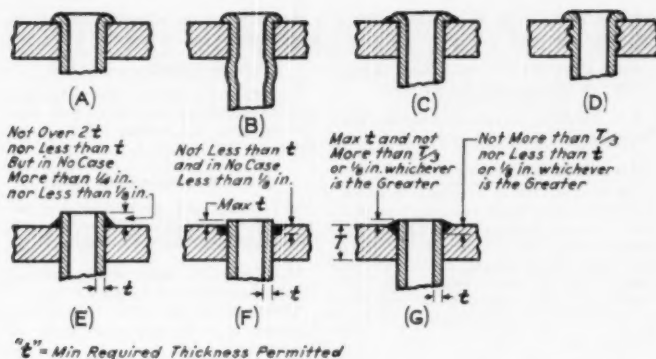

FIG. P-31 ACCEPTABLE FORMS OF TUBE ATTACHMENT ON FIRE-TUBE BOILERS
(1) The tube [ends extend not less than $\frac{1}{8}$ in., nor more than $\frac{3}{16}$ in., through the tube sheet:] SHEET HOLE MAY BE REVELLED OR RECESSED TO A DEPTH AT LEAST EQUAL TO THE THICKNESS OF THE TUBE. WHERE THE HOLE IS REVELLED OR RECESSED, THE PROJECTION OF THE TUBE BEYOND THE TUBE SHEET SHALL NOT EXCEED A DISTANCE EQUAL TO THE TUBE THICKNESS. THE DEPTH OF ANY REVEL OR RECESS SHALL NOT BE LESS THAN THE TUBE THICKNESS NOR MORE THAN ONE-THIRD OF THE TUBE SHEET THICKNESS. [SEE FIG. P-31(f), (g).]
(2) [The throat of the seal weld is not less than $\frac{3}{16}$ in., nor more than $\frac{9}{16}$ in.:] WHERE NO REVEL OR RECESS IS EMPLOYED THE TUBE SHALL EXTEND BEYOND THE TUBE SHEET NOT LESS THAN A DISTANCE EQUAL TO THE TUBE THICKNESS, NOR MORE THAN TWICE THE TUBE THICKNESS. [SEE FIG. P-31(e).]